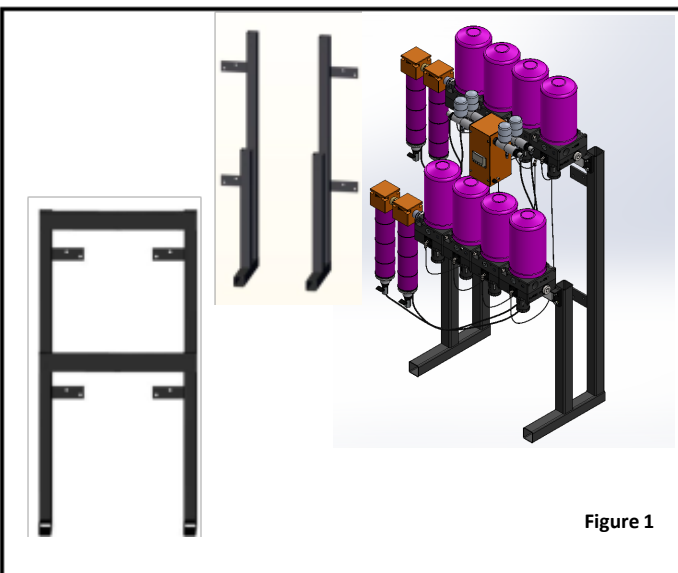

Figure 1
3. Using the appropriate hardware (not included), mount dryer bracket to wall. Figure 1. Can be configured with brackets on inside or outside of rack. Securing to floor is optional if dryer is also secured to wall.
4. Once the wall bracket has been properly secured to the wall, place the dryer mounting rail into the slot(s) of the wall bracket. Figure 1